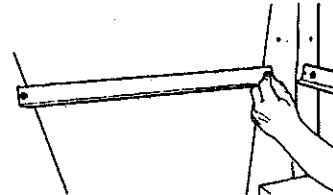

Fig.A-11
18. Attach the long leg brace (7) to the legs by installing a screw (2), star washer (4) and nut (3) in each end. Finger tighten. See Fig.A-11.